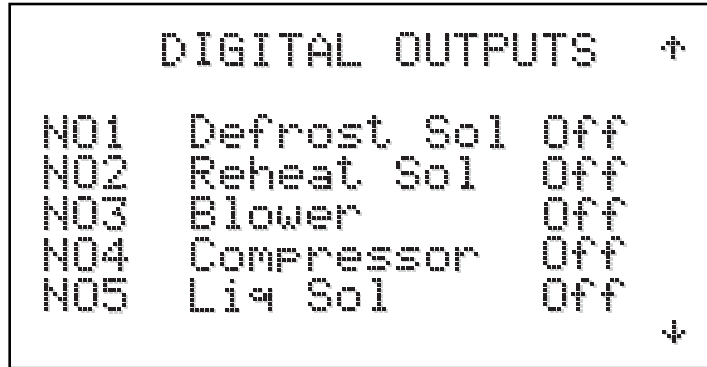

Figure 53
4.3.4.3.3 Digital Outputs (Binary) (Figures 53 - 55)
The Digital Outputs screens show the state of the device turned on and off by the control system. The first two screens (Figures 53 and 54), show the state of the relay contacts connected to the controller.